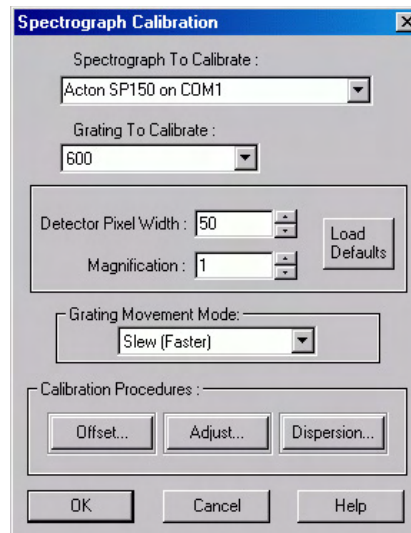

Figure 71. Spectrograph Calibration dialog box
3. Select **Calibrate** on the Spectrograph menu. This will open the Spectrograph Calibration dialog box (Figure 71).